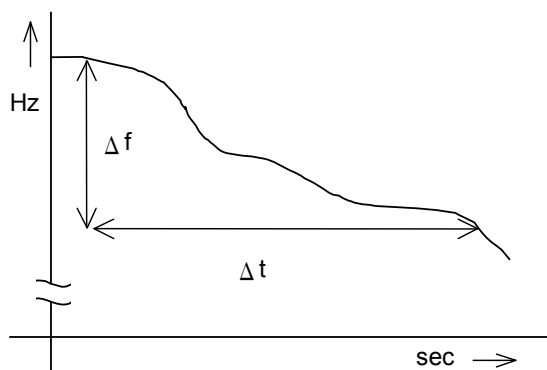

Figure 2.3.2 Frequency Rate-of-Change Element
The frequency rate-of-change element calculates the gradient of frequency change (df/dt). GRD150 provides two rate-of-change elements, a frequency decay rate element (D) and a frequency rise rate element (R). These elements measure the change in frequency (Δf) over a time interval ($\Delta t=100\text{ms}$), as shown Figure 2.3.2 and calculate the $\Delta f/\Delta t$ every 5 ms. They operate when the frequency change exceeds the setting value 50 consecutive times.